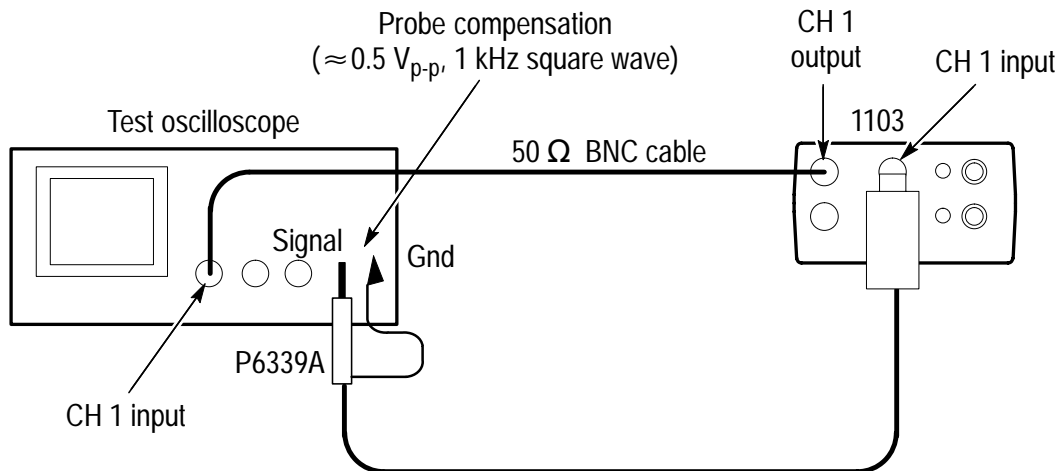

Figure 8: Setup for probe compensation and high frequency adjustment
1. Setup the equipment as shown in Figure 8 on page 20. (For this procedure, the probe tip does not have to be connected to the probe compensation signal.)
1. Set up the equipment as shown in Figure 8.